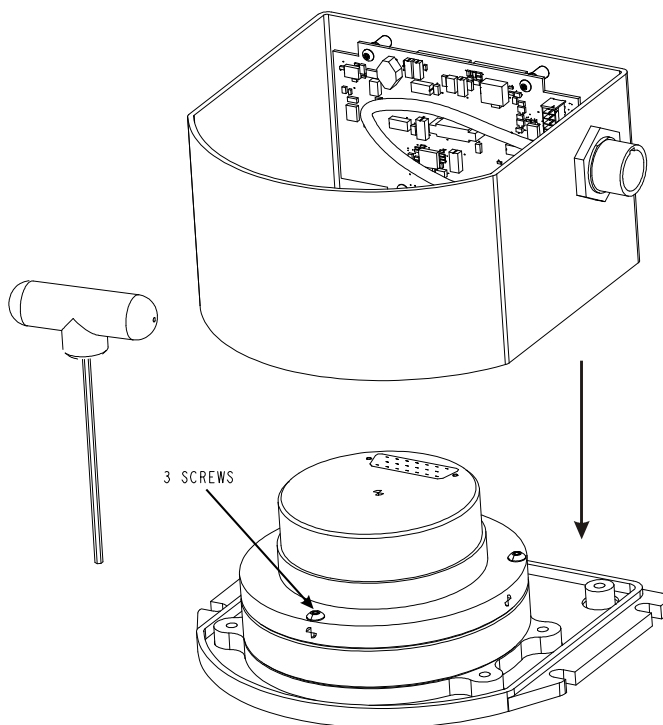

**Figure 58: Lift Top Cover, Tube Body and 3 Ring Spacer Screws**
3. Lift the top cover off the tube body and set it aside, as shown in *Figure 58* on page 362.